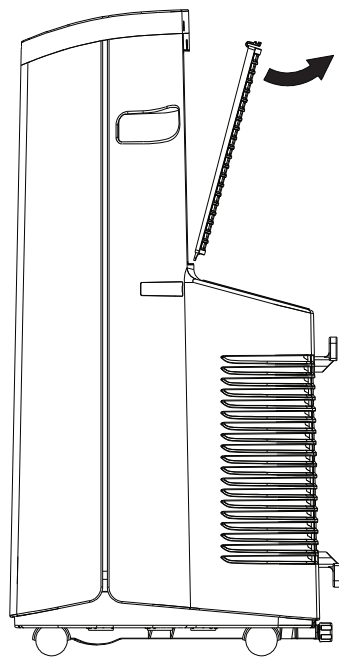

Figure 13
1. Pull out the filter in the direction shown in Figure 13.